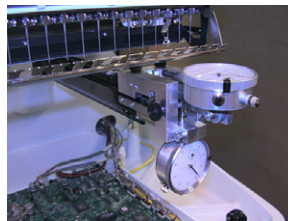

Figure 2
5. Mount the closest needle gauge fixture to the lower arm extrusion. It should appear as shown in Figure 2: